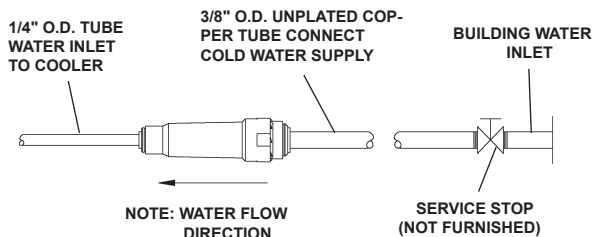

FIG. 1
- 5. Remove bottom access panel** from fountain basin and save the screws. Install the fountain to the back panel using (4) 5/16" x 3/4" long screws and washers (provided) thru holes in back panel. Tighten securely.
- 7. Make water supply** connections from service stop to the 3/8" O.D. unplated copper tube coming out of the fountain strainer (See Fig. 1). Turn on water supply and check for leaks. Newly installed water supply line should be insulated after leak check is completed. **DO NOT SOLDER TUBES INSERTED INTO THE STRAINER AS DAMAGE TO THE O-RINGS MAY RESULT.**